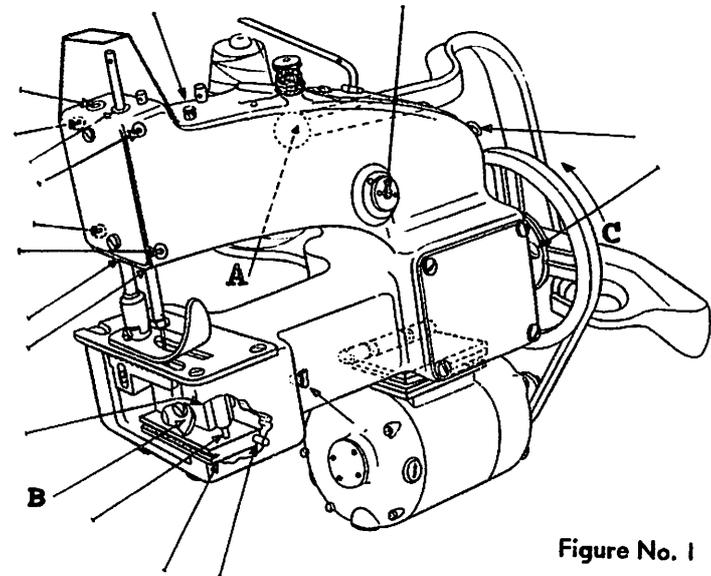

Figure No. 1
12. To change looper "B," Figure No. 1, follow instructions below very carefully. Machine will not sew or chain properly unless looper is set exactly right and according to these instructions: